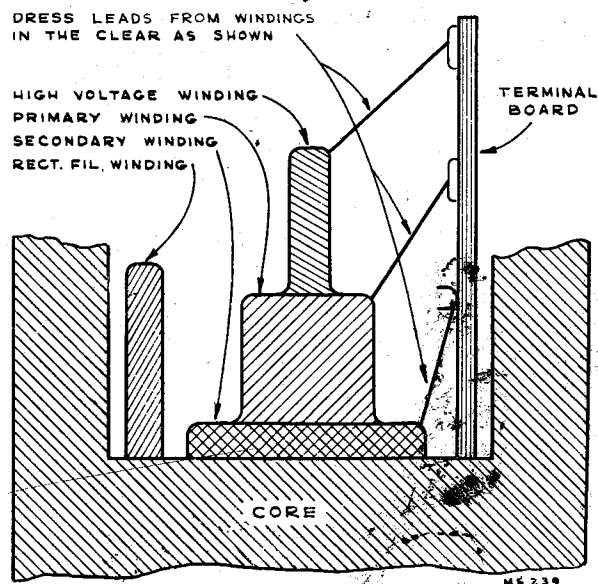

Figure 23—T109 Lead Dress
6. Dress T109 winding leads as shown in Figure 23.